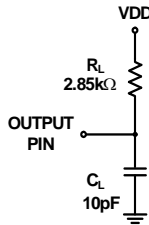

FIGURE 4. EQUIVALENT LOAD CIRCUIT
- During characterization, $t_{DISABLE}$ is measured from the release point with a 10pF load (see Figure 4) and the equivalent timing using the AD7452 loading (25pF) is calculated.